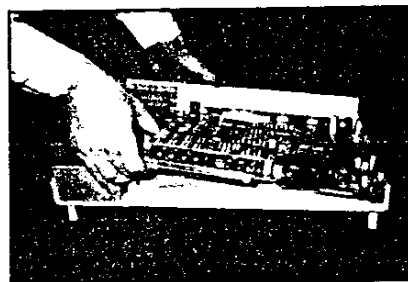

Fig. 2-13. PCB Removal
2.6.3 Gently lift the PCB from the bottom case. To clear the mouse connectors, you will have to lift the power supply side of the board up first and lightly push the right-side bottom housing away from the PCB. The rear panel housing will come off with the PCB and may require slight pressure during PCB removal to keep it from binding in it's tracks, as shown in Fig. 2-13.